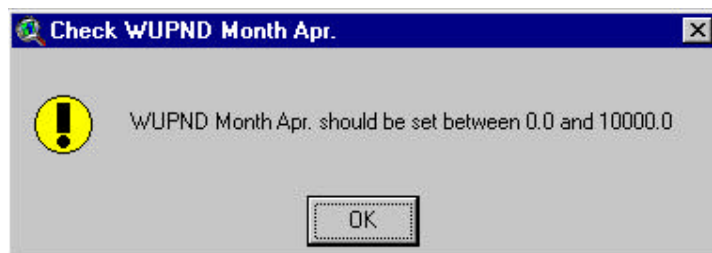

Figure 12.39
2. Edit data: Activate a parameter text box by clicking on it. Type the desired value. You can move to the next parameter text box by pressing the **TAB** key. If the value of the parameter is out of range a message box like the one in Figure 12.39 pops up.